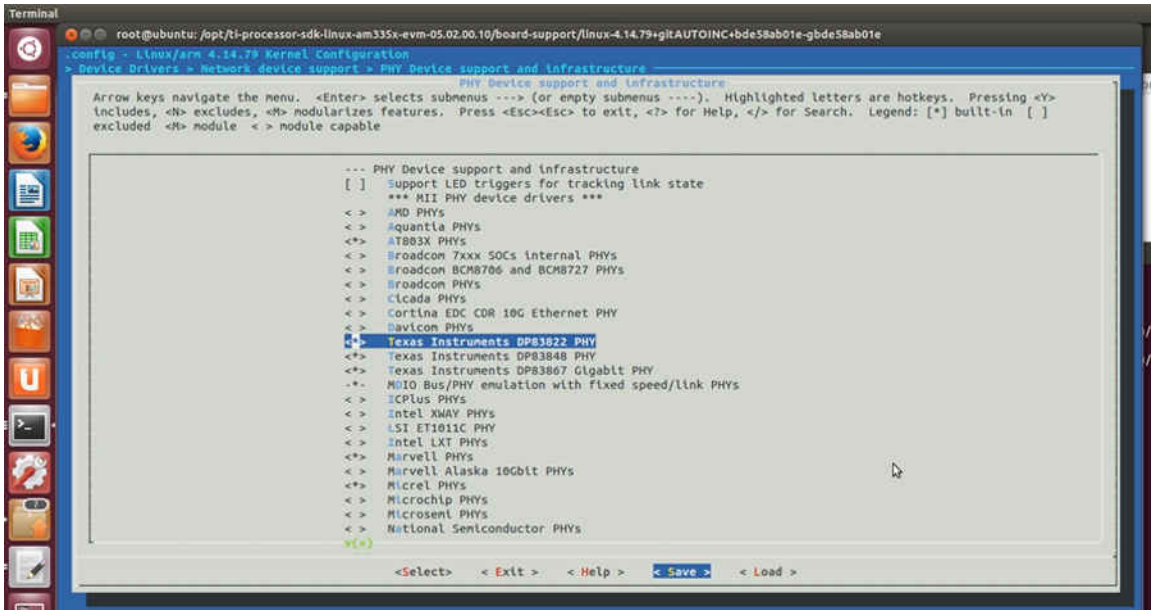

Figure 3-13. Menu Configuration Step B
2. Figure 3-13 is used to set the TI Phy.